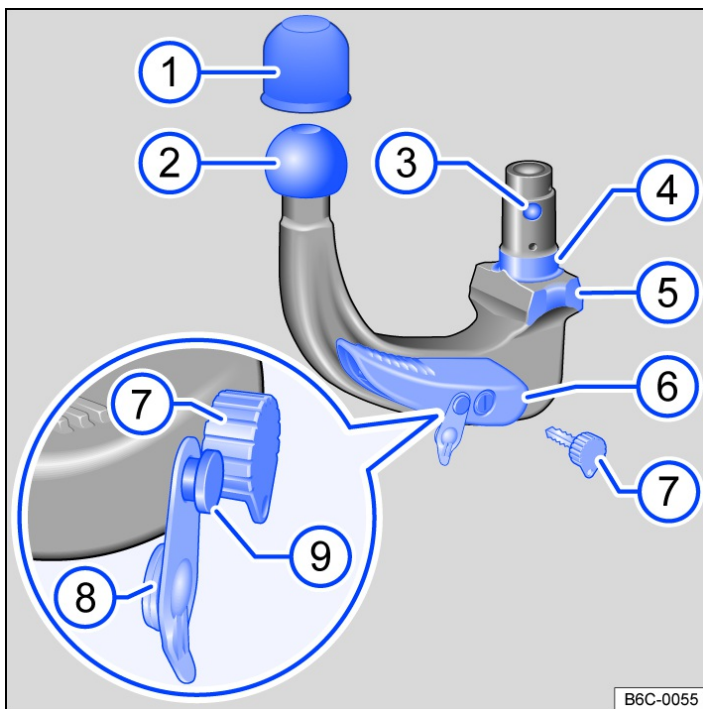

Fig. 1 Overview: removable ball coupling.
- If the smallest diameter on the ball coupling → Fig. 1  is smaller than 49 mm, do not use the towing bracket.
- Remove the lock cap → Fig. 1 (8) from the lock in the locking lever and insert the key (7) into the lock.
- Turn the key → Fig. 1 (7) anti-clockwise until the part of the key with the hole is at the top.
- Hold the neck of the ball coupling below the ball coupling → Fig. 1 (2) with your hand.
- Press the release pin → Fig. 1 (9) and at the same time press the locking lever (6) down as far as it will go → ⚠. The ball coupling is pre-tensioned.
- Release the locking lever → Fig. 1 (6) and stow the pre-tensioned ball coupling safely with the vehicle toolkit.